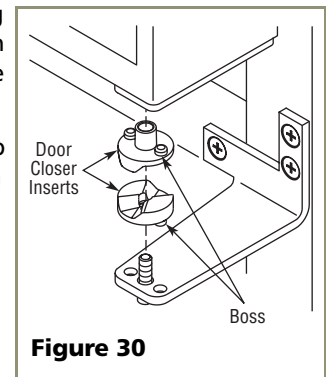

Figure 30
7. Reinstall the closers, lining up the bosses with holes in hinge and hinge plate (see **Figure 30**).